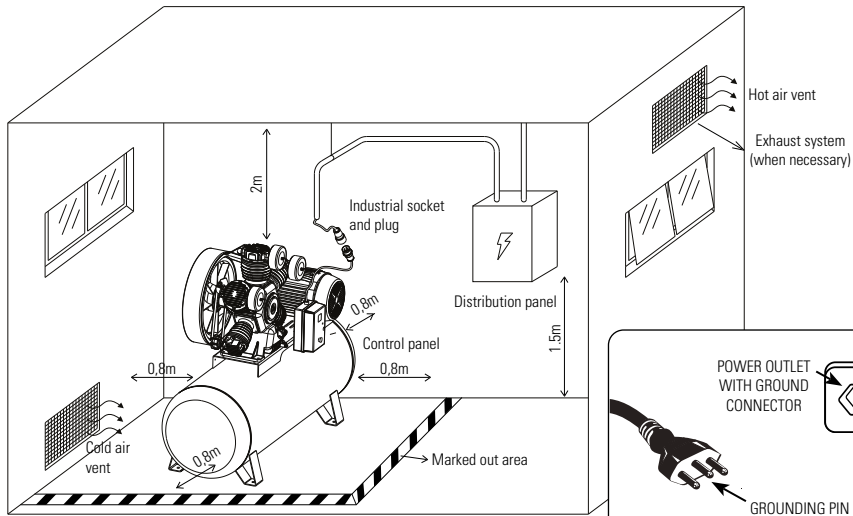

FIGURE 6.10 - DETAIL OF THE COMPRESSOR POWER SUPPLY AND INSTALLATION FROM THE DISTRIBUTION PANEL
- The maximum recommended ambient temperature for operation is 40 °C and minimum of 5 °C. Install an exhaust system if necessary (Figure 6.10).
- Properly mark and delineate an area around the compressor to alert and prevent collisions with the equipment (Figure 6.10).